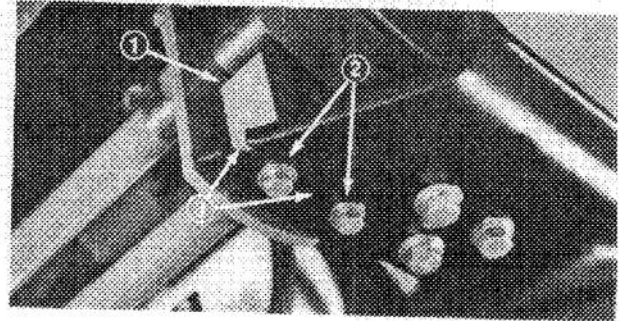

Figure 75
Note: If belt stretches, pivot block may be repositioned on bracket using additional set of mounting holes. Remove cap screws, lockwashers and flatwashers securing pivot block and shim to bracket. Relocate pivot block and shim to new holes and secure to bracket with fasteners (Fig. 75).
5. Remove two cap screws, and lockwashers securing bearing hub and shim to bracket (Fig. 75).
7. Install new belt around the PTO shaft pulley and engine pulley. Then secure pivot block with fasteners (Fig. 75).